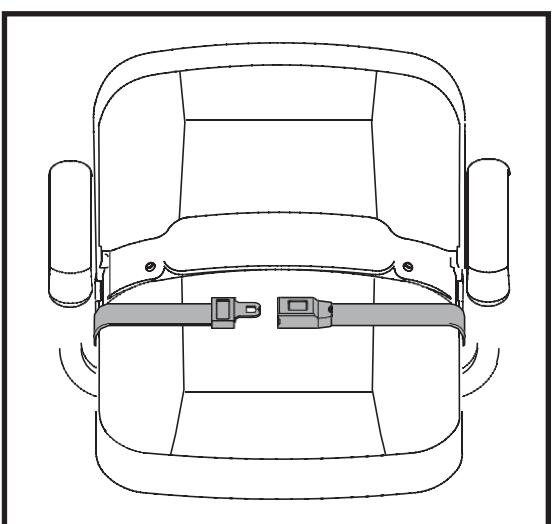

Figure 29. Positioning Belt - Metal Tab Style
Your scooter seat may be equipped with an auto-type positioning belt that can be adjusted for operator comfort. See figure 29 or 30. The positioning belt is designed to help support the operator so that he or she does not slide down or forward in the seat. The positioning belt is not designed for use as a restraining device.
1. Insert the metal tab on the right side of the belt into the plastic housing on the opposite strap until you hear a "click." See figure 29.